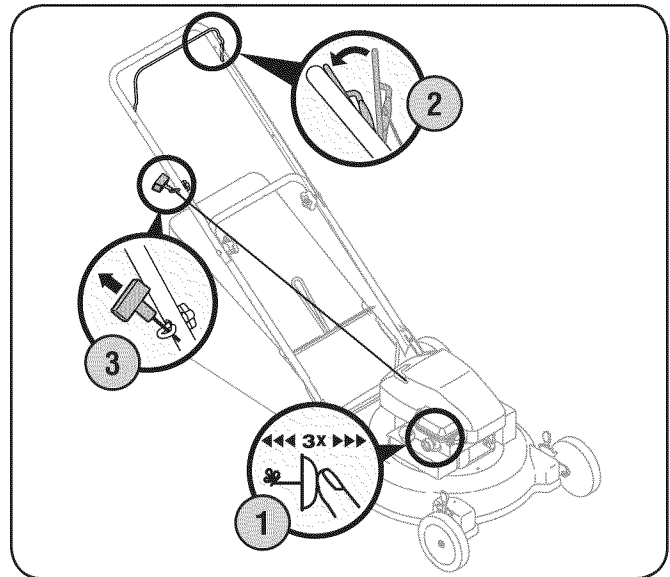

Figure 5-1
1. Push primer (if equipped) three times. Wait about two seconds between each push. See Figure 5-1. In temperature around 55° F or below, prime five times. Do not prime to restart a warm engine.
3. Holding these two handles together firmly, grasp recoil starter handle and pull rope out with a rapid, continuous, full arm stroke. See Figure 5-1. Keeping a firm grip on the starter handle, let the rope rewind slowly. Repeat until engine cranks. Let the rope rewind each time slowly.